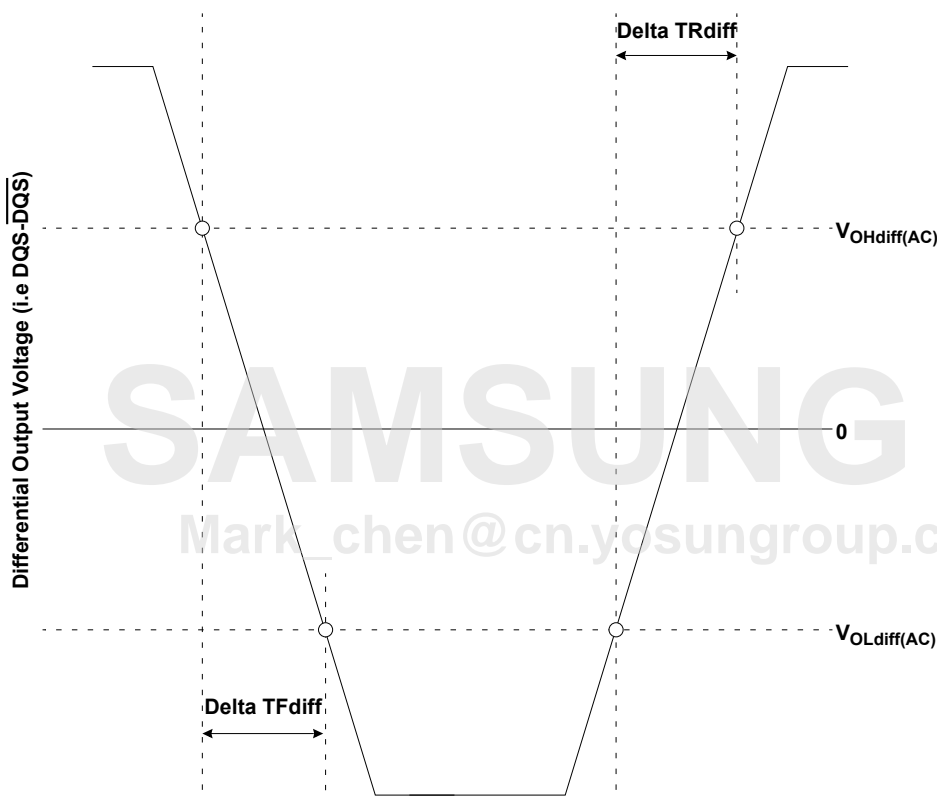

Figure 9. Differential Output Slew Rate Definition
With the reference load for timing measurements, output slew rate for falling and rising edges is defined and measured between VOLdiff(AC) and VOHdiff(AC) for differential signals as shown in Table 27 and Figure 9.